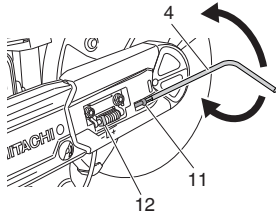
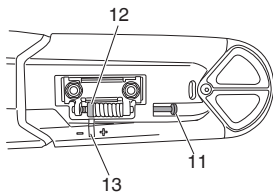

Fig. 12
Fig. 13
2. Use the hex. wrench (4) to rotate the tensioner bolt (11) so that the position of the tension nut (12) matches with the marking (13) on the arm cover (10). (Fig. 12, Fig. 13)